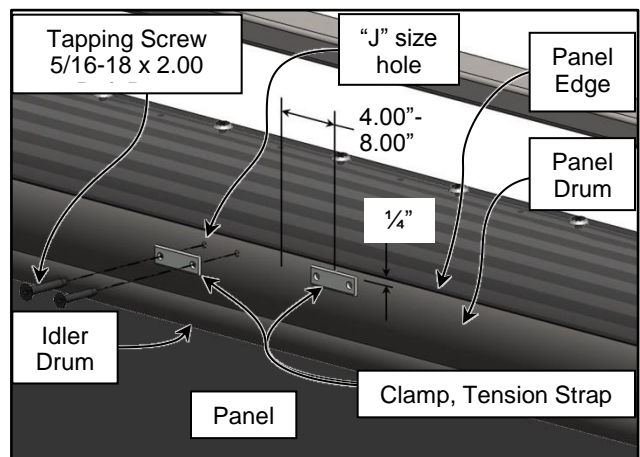

Figure 52
2. Place a Windbar Strap Clamp directly against the panel drum just below the door panel edge (about $\frac{1}{4}$ ") as shown on either side of the drum center. Center the (2) strap clamps 4" on either side of the drum's center. If the clamp centers are the same distance as an existing panel mounting screw, each clamp must be moved out from the drum's center an additional 4". The Windbar Strap Clamps must straddle the panel mounting screws as shown. (See Figure 52)
4. Using a "J" size drill bit, finish drill (4) true and perpendicular "J" size ($\varnothing.277$ ") holes for the strap clamps fasteners. (See Figure 52)
9. If both front and rear windbars are used, install the front as shown. The rear windbar straps must be installed between the next set of Panel-Drum Mounting Fasteners out from the drum center. (See Figures 52 and 53)